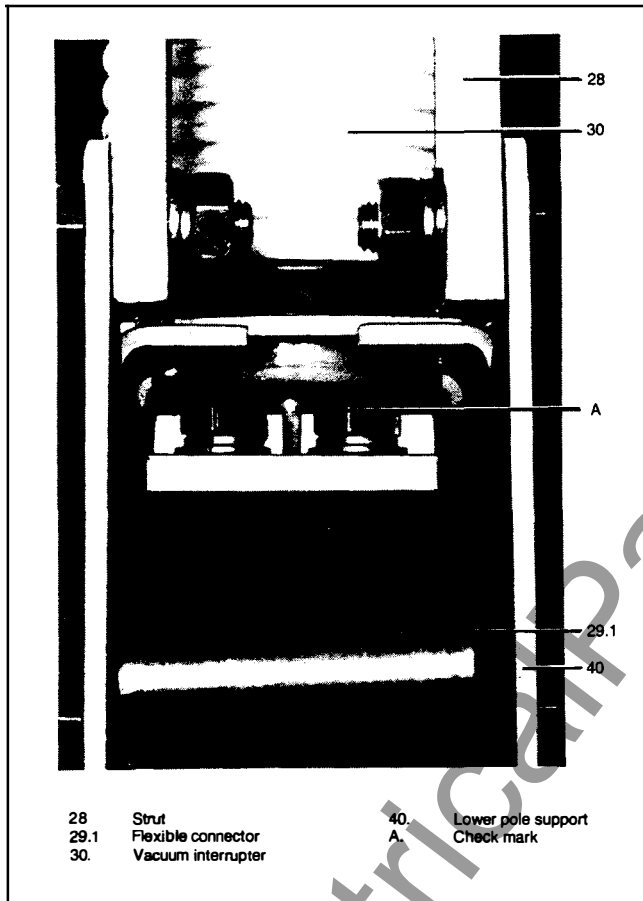

Figure 20
Contact erosion is checked on a closed breaker by visually observing a white dot erosion mark (A) on the exposed movable contact stem of the interrupter, see Figure 20. NOTE: the tripping springs are charged and the circuit breaker could open unexpectedly.